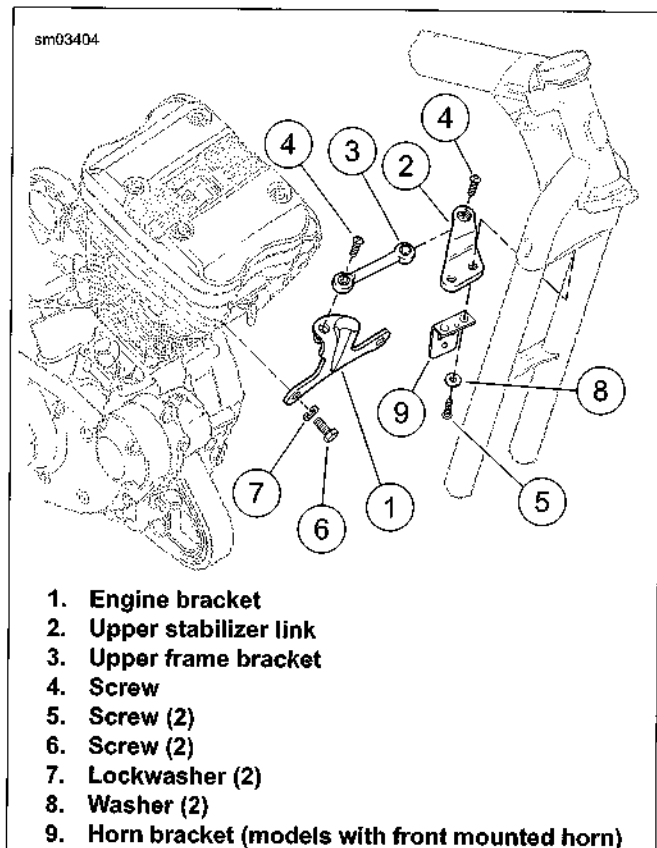

Figure 3-77. Upper Front Stabilizer Link Assembly
1. See Figure 3-77. Install upper front stabilizer link and frame bracket:
- a. Install upper frame bracket (3) with upper stabilizer link (2), horn bracket (9) (models with front mounted horn), screws (5) and washers (8). Tighten to 25-35 ft-lbs (33.9-47.5 Nm).
- b. Install screw (4) securing stabilizer link to engine bracket (1). Tighten to 25-35 ft-lbs (33.9-47.5 Nm).